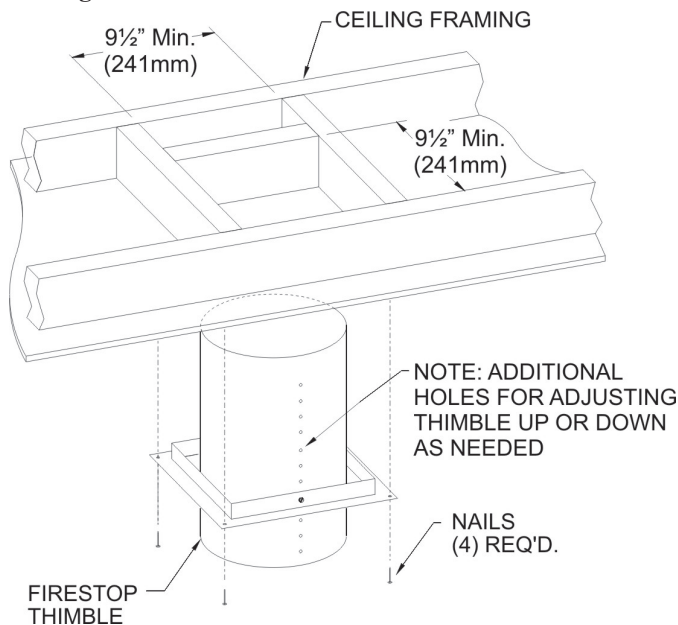

Figure 27
4. Once the fireplace location has been determined, mark the ceiling where the flex vent will pass through. Cut an opening for installation of the firestop thimble assembly. The opening must measure a minimum of 9-1/2" x 9-1/2" square. See **Figure 27**.